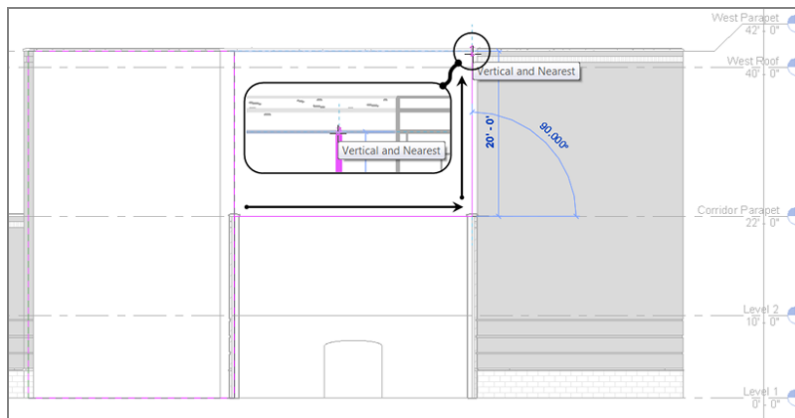

FIGURE 3.46: Drawing another line from Level 3 to the bottom of the Corridor Parapet level
9. Draw the line straight up the wall to the top. Make sure you don't snap to the top of the parapet cap. The point you want is to the top of the brick, as shown in Figure 3.46. (All you're doing here is sketching the profile of the wall.)